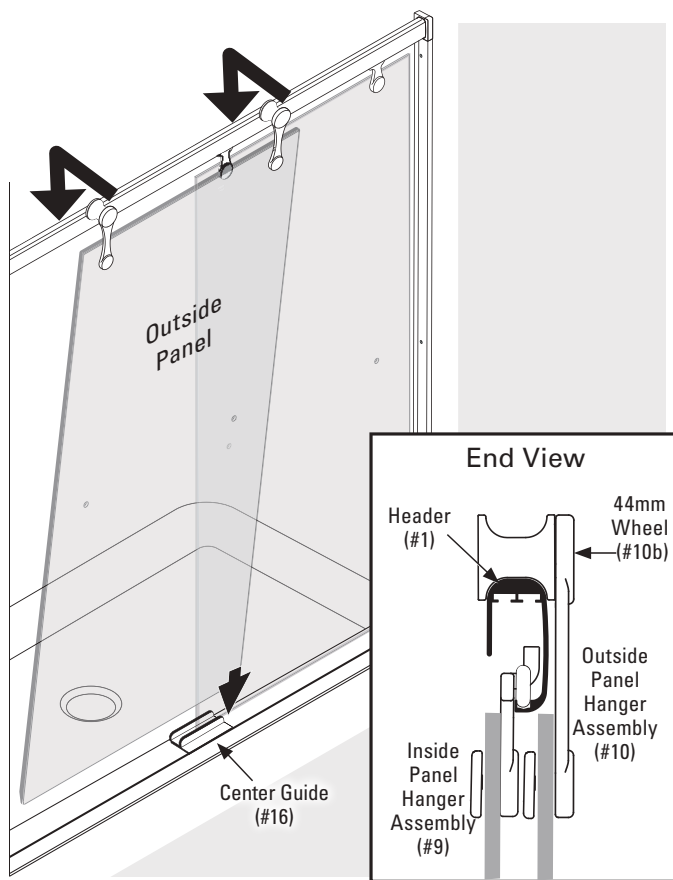

Figure 15
2. Hold the Outside Door Panel so that the Wheels are facing away from you. Standing outside and facing the tub/shower enclosure, lift the Outside Door panel up and over the Curb and then lower the Outside Panel Assembly over the Header and at the same time ensure the bottom of the Outside Door Panel is inserted into the Center guide. make sure the Panel rolls freely (See **Figure 15**).